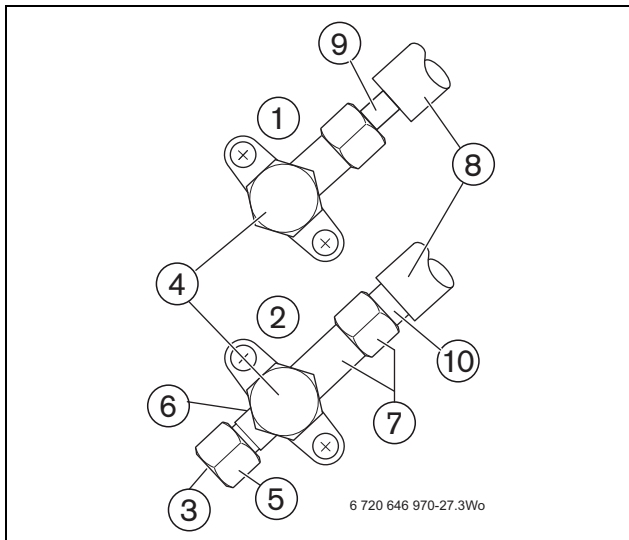

Fig. 32 Shut-off valves, refrigerant circuit
- Ensure that the shut-off valves on the pipe work for liquid [1] (→ Fig. 32 and page 29). and gaseous refrigerant [2] (→ Fig. 32 and page 29) are closed and do not open them.
- ▶ Connect a high performance vacuum pump to the Schrader valve (→ Fig. 32, [3]).